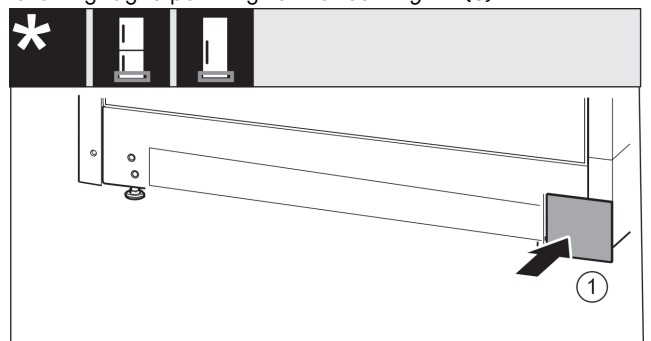

Fig. 15
- ▶ Put back the cover on the other side. Fig. 15 (1)